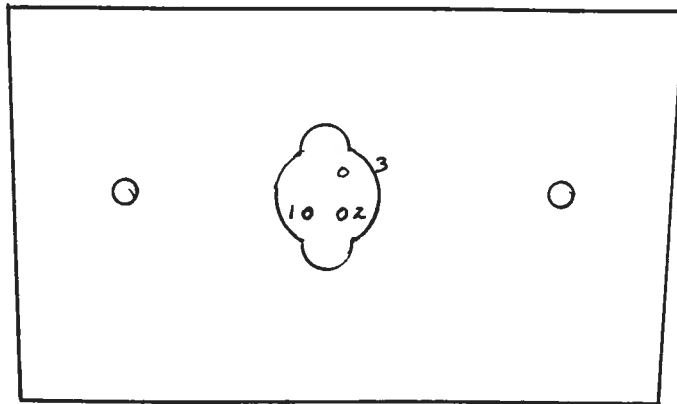

Fig. 2 DIODE SOCKET PIN CONNECTIONS
- 4) The connectorized detector diode may be removed by removing the 2 Phillips 2-56 screws which affix the diode assembly to the 2 x 5 cm aluminum mounting plate in the side of the amplifier. The diode may then be removed from the socket by gently pulling the diode package away from the amplifier chassis. The aluminum mounting plate may be removed by loosening the 8-32 nuts (4) then removing the 8-32 machine screws (2). Other APD detector diodes may be inserted into the socket. The pin connections are shown in Fig. 2.